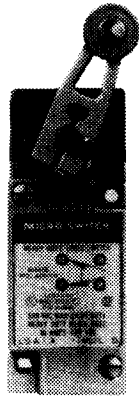

Figure 2
Side Rotary. LSM (center neutral) and LSN (maintained) listings operate in both directions and cannot be changed. Listings with the first three letters LSA, LSH, LSL, LSP, LSU, and LSR may be changed to operate clockwise, counter-clockwise or both. NOTE: Instructions for adjusting switch operation are cast into the hinged cover (Fig. 2). To change, follow these steps:
2. On the bottom of the head, insert a screwdriver in slot provided (Fig. 2) and lift open hinged cover.